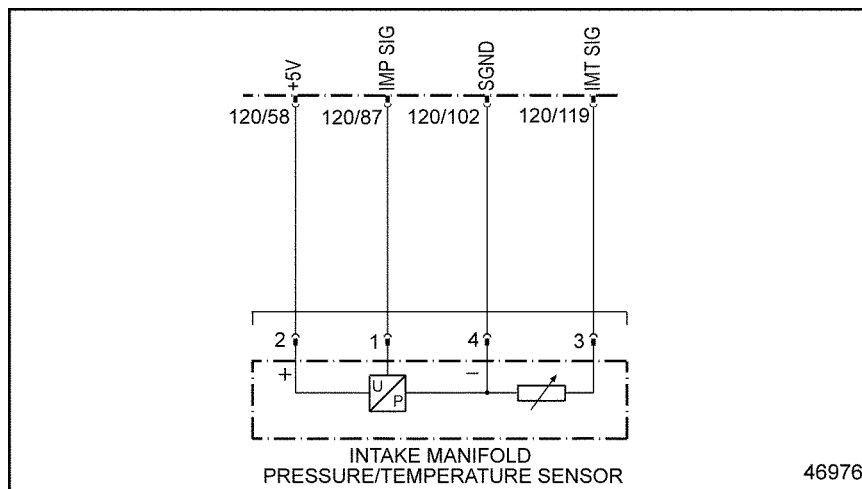

Figure 43-1 Intake Manifold Pressure/Temp Sensor
- [a] If fault code 3563/3 and 1636/3 are present, repair open circuit between pin 102 of the 120-pin MCM connector and pin 4 of the Intake Manifold Pressure/Temp Sensor. See Figure 43-1. Refer to section 43.2.1.1.
4. Measure the resistance between pins 1 and 4 of the Intake Manifold Pressure/Temp Sensor harness connector. See Figure 43-1.
- [a] If the resistance is greater than 5 Ω , repair short to power in the circuit between pin 87 of the 120-pin MCM connector and pin 1 of the Intake Manifold Pressure/Temp Sensor. See Figure 43-1. Refer to section 43.2.1.1.
- [b] If the resistance is less than 5 Ω , repair the short between wire 58 and 87 of the 120-pin MCM connector. See Figure 43-1. Refer to section 43.2.1.1.